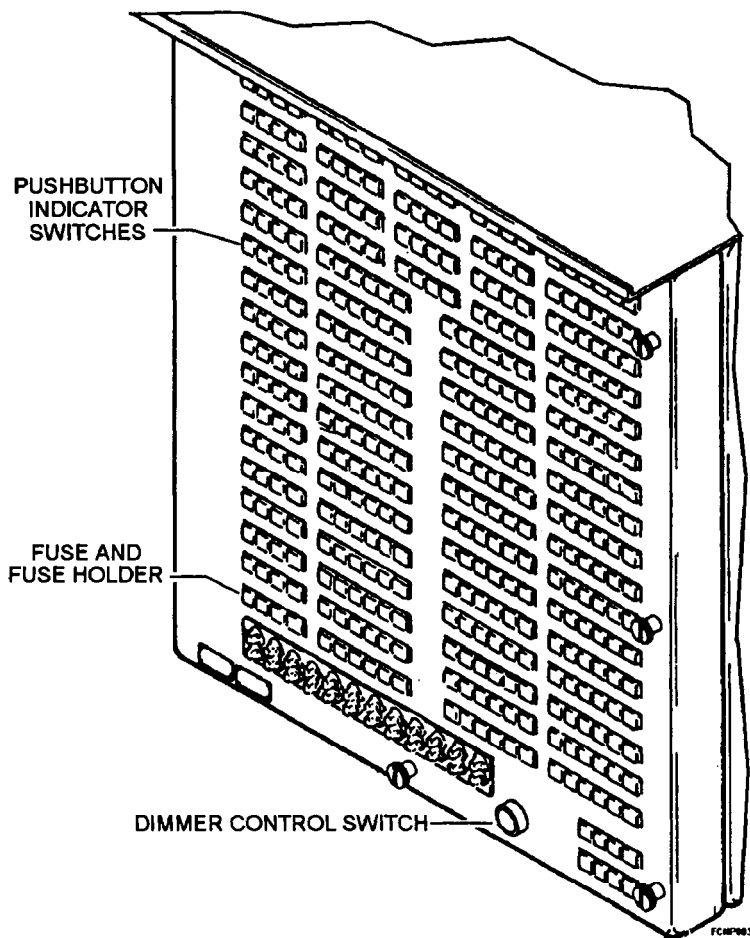

Figure 1-9.—Computer switching and control panel used on a CDS/NTDS system.
**EXTERNAL CONTROLS.**— Some computers use external controls to configure and set up the computer to enable it to communicate with peripherals and other systems. These controls work in conjunction with the software. Unless these controls are configured and set up properly, the computer cannot perform its functions correctly. The controls may be set through digital switchboards or computer switching and control panels. Figure 1-9 is an illustration of a computer switching and control panel used on a CDS/NTDS system. Notice the push-button indicator switches available. You can use these to control the configuration and data routing.